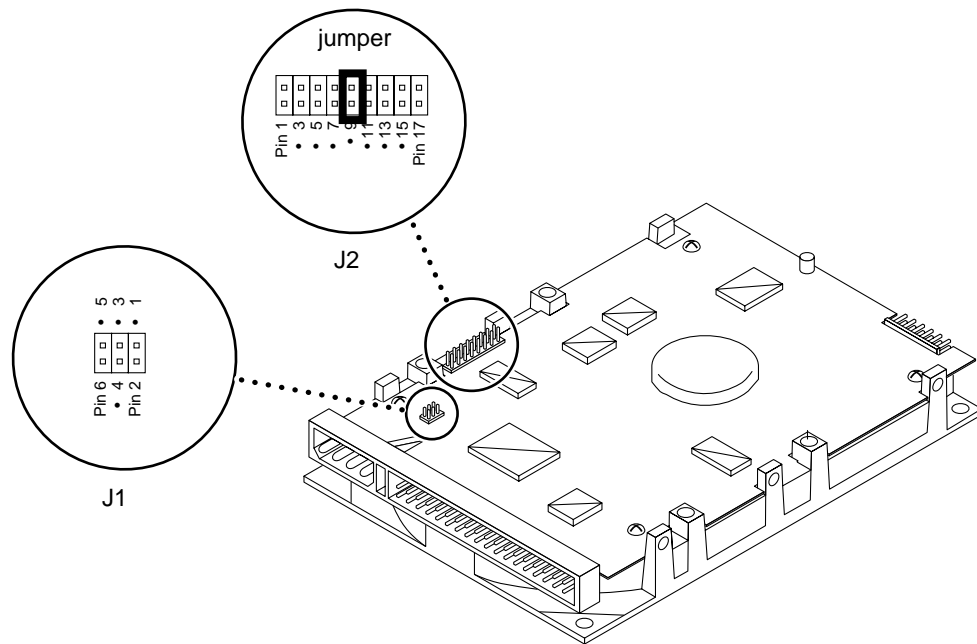

Figure 1-2 Seagate Drive Jumper Settings
- See Figure 1-2 on page 1-11 for the Seagate drive.
- If you have a Seagate disk drive, see Figure 1-2 on page 1-11.